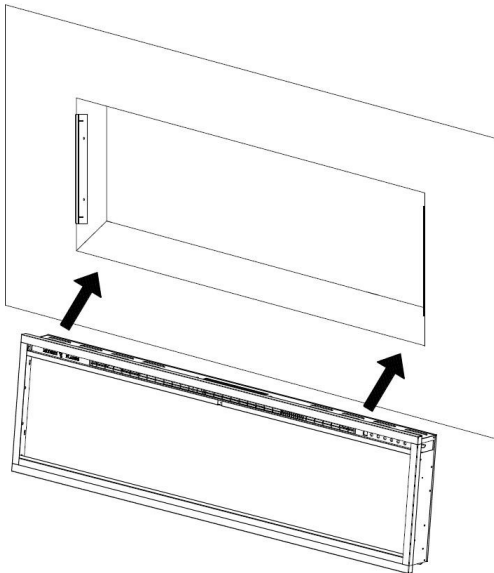
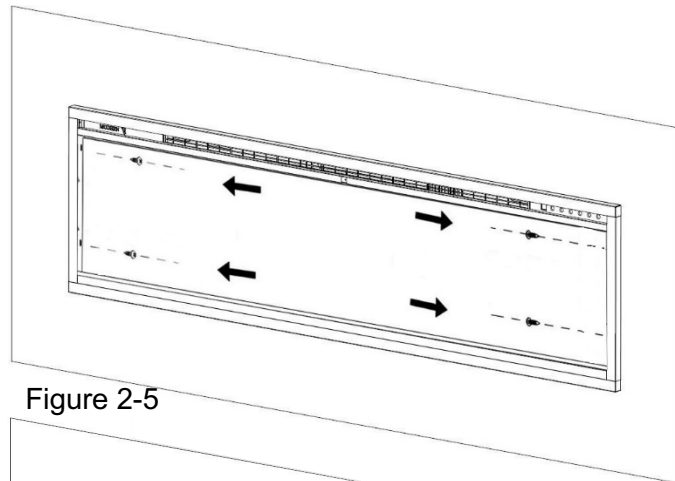

Figure 2-4
Figure 2-5
E. Insert the appliance into the rough-in frame (Fig. 2-4) and then secure it by installing 4 screws (supplied) into the slots on the insides (2 per side)(Fig. 2-5). Next reinstall the two brackets and 4 screws previously removed. (Fig. 2-6).